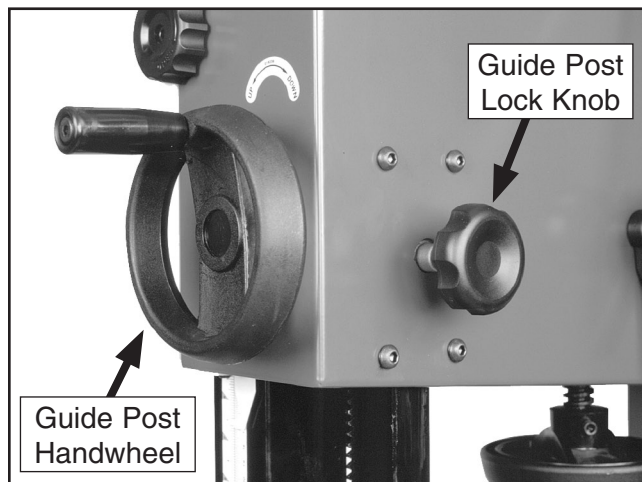

Figure 39. Guide post controls.
The guide post, shown in **Figure 39**, connects the upper blade guide assembly to the bandsaw. The guidepost allows the blade guide assembly to move up or down via a rack and pinion. In order to cut accurately, the blade guide assembly must be no more than 1" from the top of the workpiece at all times—this positioning provides the best support for the blade.
2. Loosen the guide post lock knob shown in **Figure 39**.